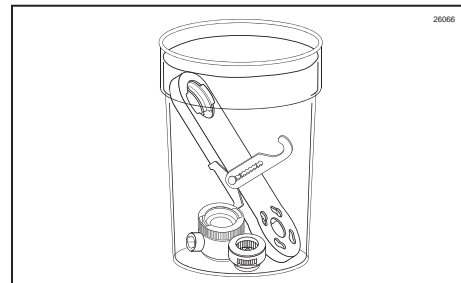

Figure 128
2. Place the Gear Box, Suspension Bracket, Gear Cartridge, and Injector Head in approved sanitizer solution and soak for 1 minute. (See Figure 128.)